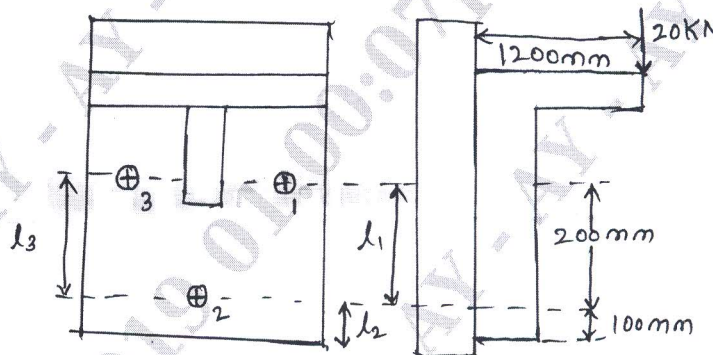

Fig Q7(b)
- b. Determine the diameter of rivet for a bracket rivetted as shown in Fig Q7(b). The allowable normal and shear stresses are 120MPa and 60MPa respectively. (08 Marks)